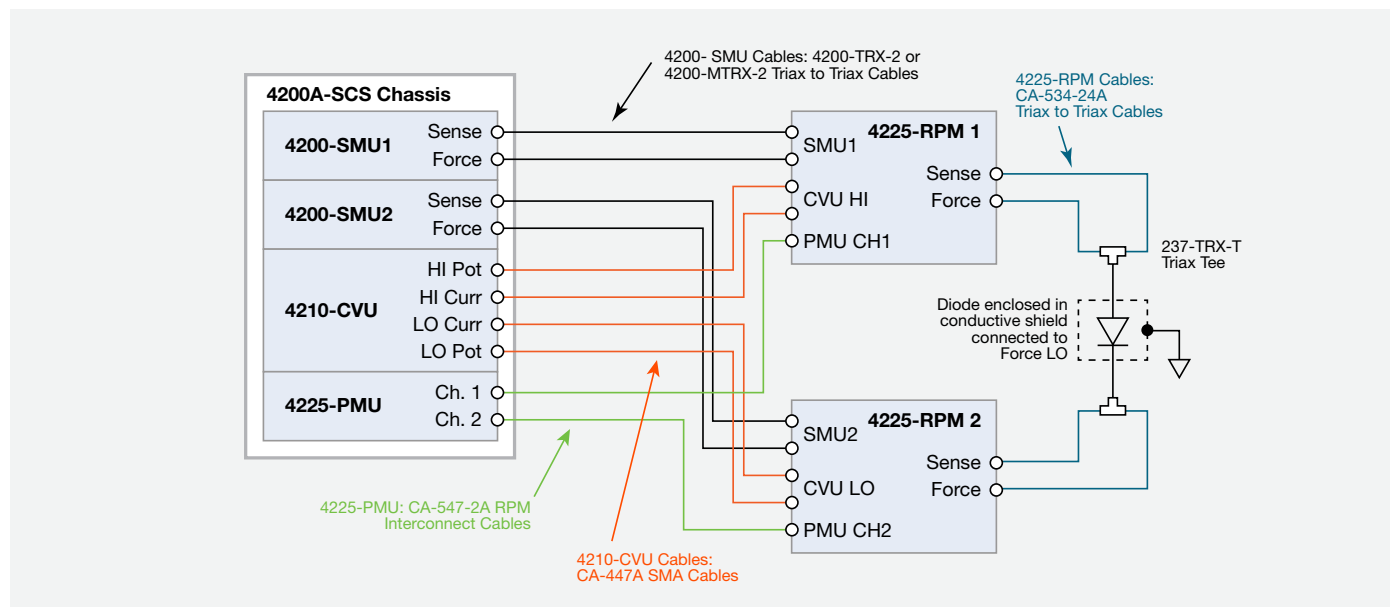

Figure 4. Connections from the 4200A-SCS and 4225-RPMs to the diode.
**The schematic in Figure 4 illustrates the hardware connections from both the input and output terminals of the two 4225-RPMs. The DUT in this example is a diode.**